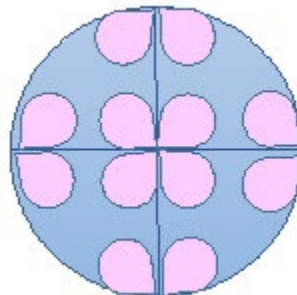

Figure 1. Depiction of an X plate with media in each corner.
1. Fill each corner of the X plate with ~200 μ L HEPES-TALP. Put 3 additional ~200 μ L drop of HEPES-TALP in between each corner, up against the wall of the plate. See Figure 1 below. Do not cover with oil.